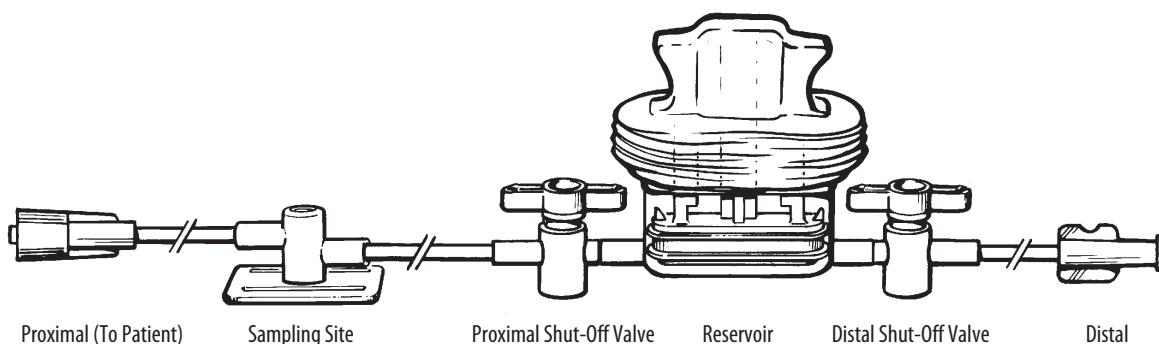

Figure 1
5. Securely connect the proximal end of the kit with the male luer-lock connector to the pre-filled catheter (Figure 1).